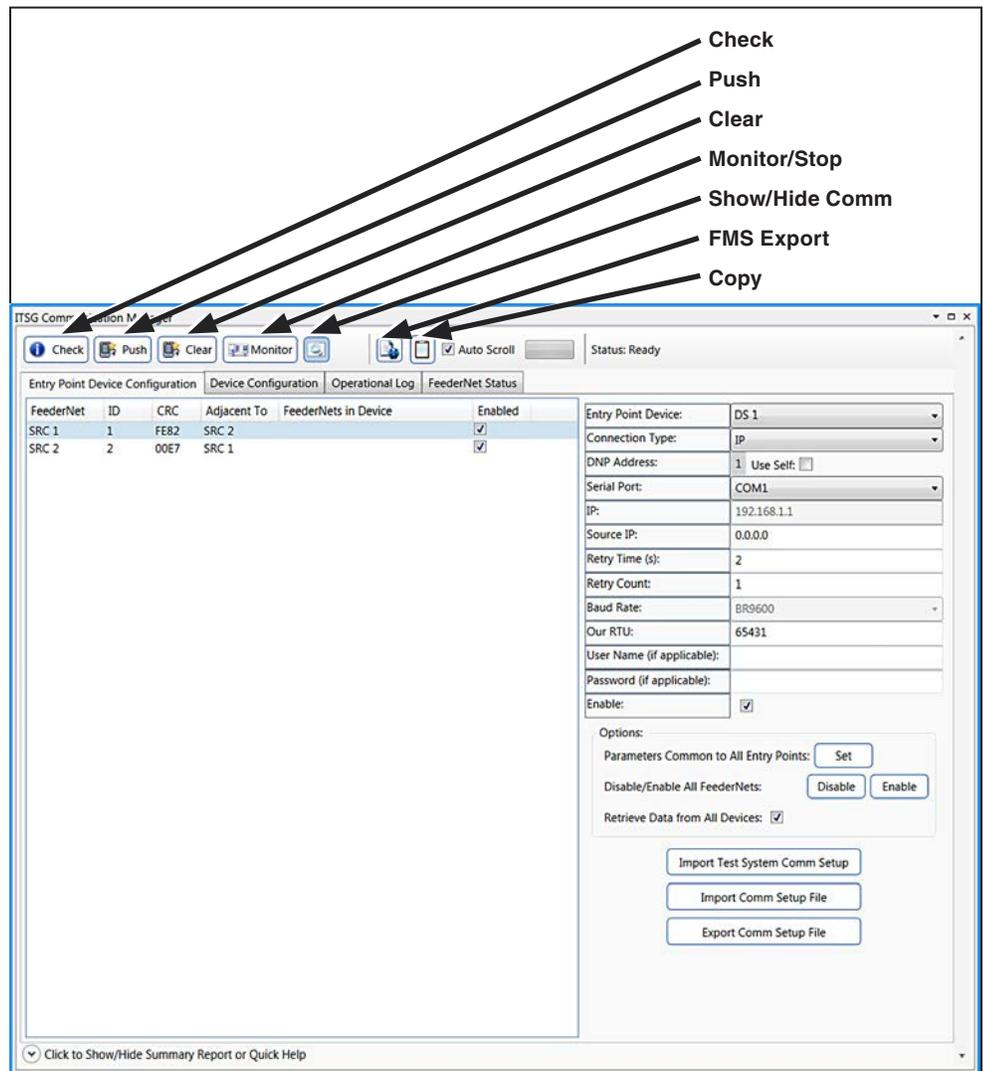

Figure 83. The *Communications Manager*>*Entry Point Device Configuration* screen.
- STEP 3.** Click on the **Communicate to Devices** icon, which opens the *Communication Manager* screen. See Figure 82 on page 84 and Figure 83 on page 85.
To push the IntelliTeam SG system settings to S&C controls, the settings must be propagated to an entry point device within the FeederNet. And to push the IntelliTeam II system settings to S&C controls, the settings must be sent to each device individually. This is accomplished using the communication manager. See Figure 83 on page 85.
This tab is used for communication setup to entry point devices for the Netlist **Push** process. See Figure 83 on page 85.